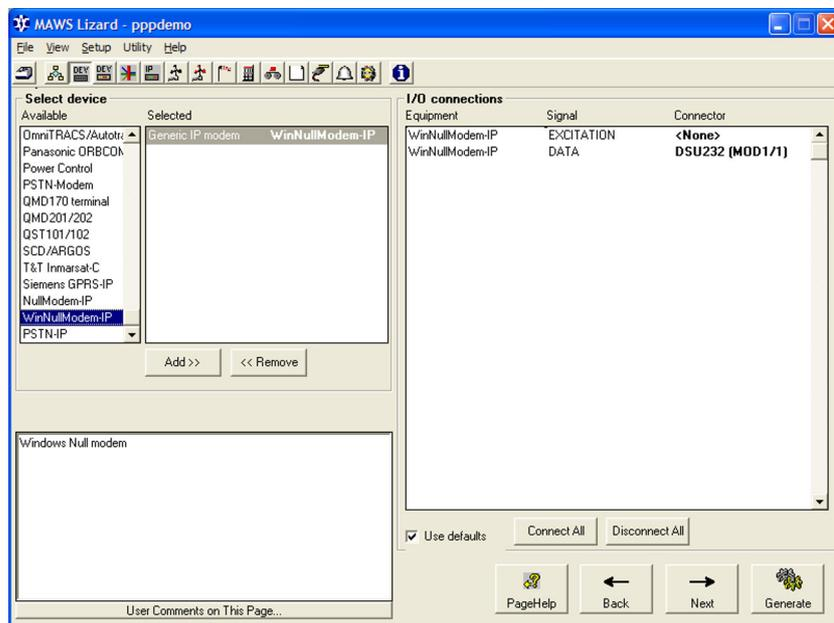

Figure 160 Connecting WinNullModem-IP Device
- c. Connect the **WinNullModem-IP** device to a channel on DSU232 as shown in Figure 160 on page 321.